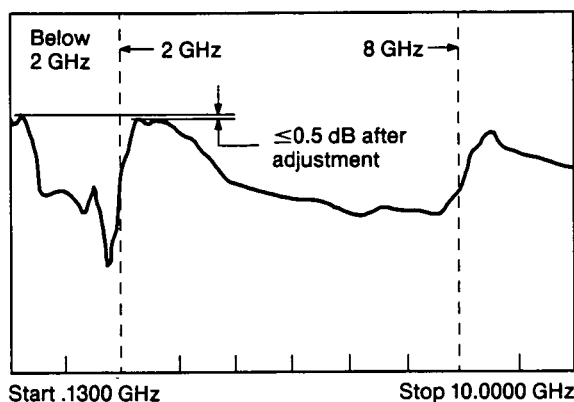

Figure 12. Typical Power Level Plot
4. Rotate the RPG knob slowly to increase the frequency to 10 GHz. Change the cal factor of the power meter as required. Note the maximum power level and frequency (one or two peaks, typically around 2.2 GHz and 8 GHz) in columns 4 and 5. Figure 12 shows a typical power level plot.
8. Ultimately, the maximum power level below 2 GHz must be within 0.5 dB of the maximum power level above 2 GHz, as shown in Figure 12. When adjusted, perform the following automatic leveling control adjustment.